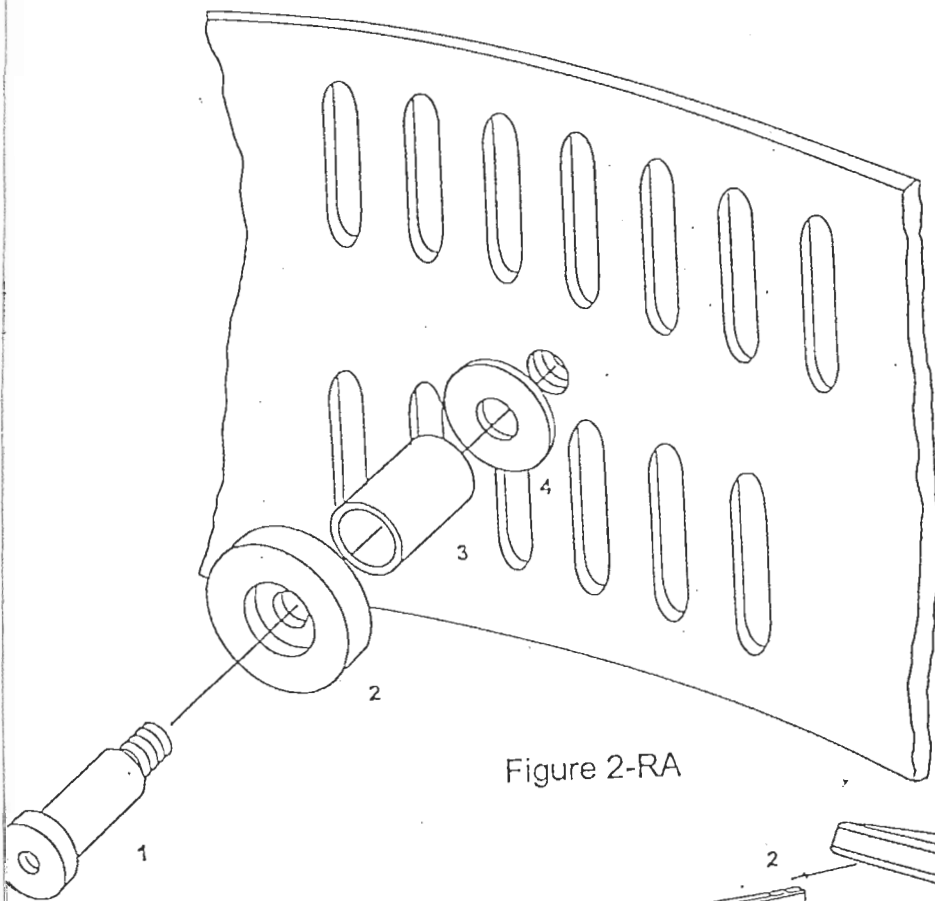

Figure 2-RA
Carefully remove the canopy from the carton marked "sunroof" and lay it on the carpet or similar surface with the acrylic side down. Locate the four rollers, spacer washers and axle bolts (see figure 2-RA). Push the roller (2) onto the axle bolt (1) so that the head of the bolt fits into the recess in the roller. Slide the metal spacer (3) and washer (4) onto the bolt until only the threads are exposed. **Note: Use enclosed Loctite when installing the Allen Cap bolts.** Locate the two 3/8" threaded holes on each end of the sunroof (one is five exhaust slots from the rear, and the other is in the lower center) and screw the axle bolts into the canopy end plates. Be sure to insert the bolts carefully to prevent "cross threading" and tighten with the 1/4" Allen wrench provided.
Remove the acrylics from both the couch and the canopy, and install the gas piston mounting hardware shown in Figure 2-GP. Counting the exhaust slots from the rear of the unit, place a slot clearance spacer (Figure 2-GP, Item 3), either close or far from the acrylic. Place gas piston ball mount (Fig. 2-GP, Item 1) in remaining slot opening (Example: Fig. 2-GP shows spacer close to the acrylic). Use table below to determine placement.